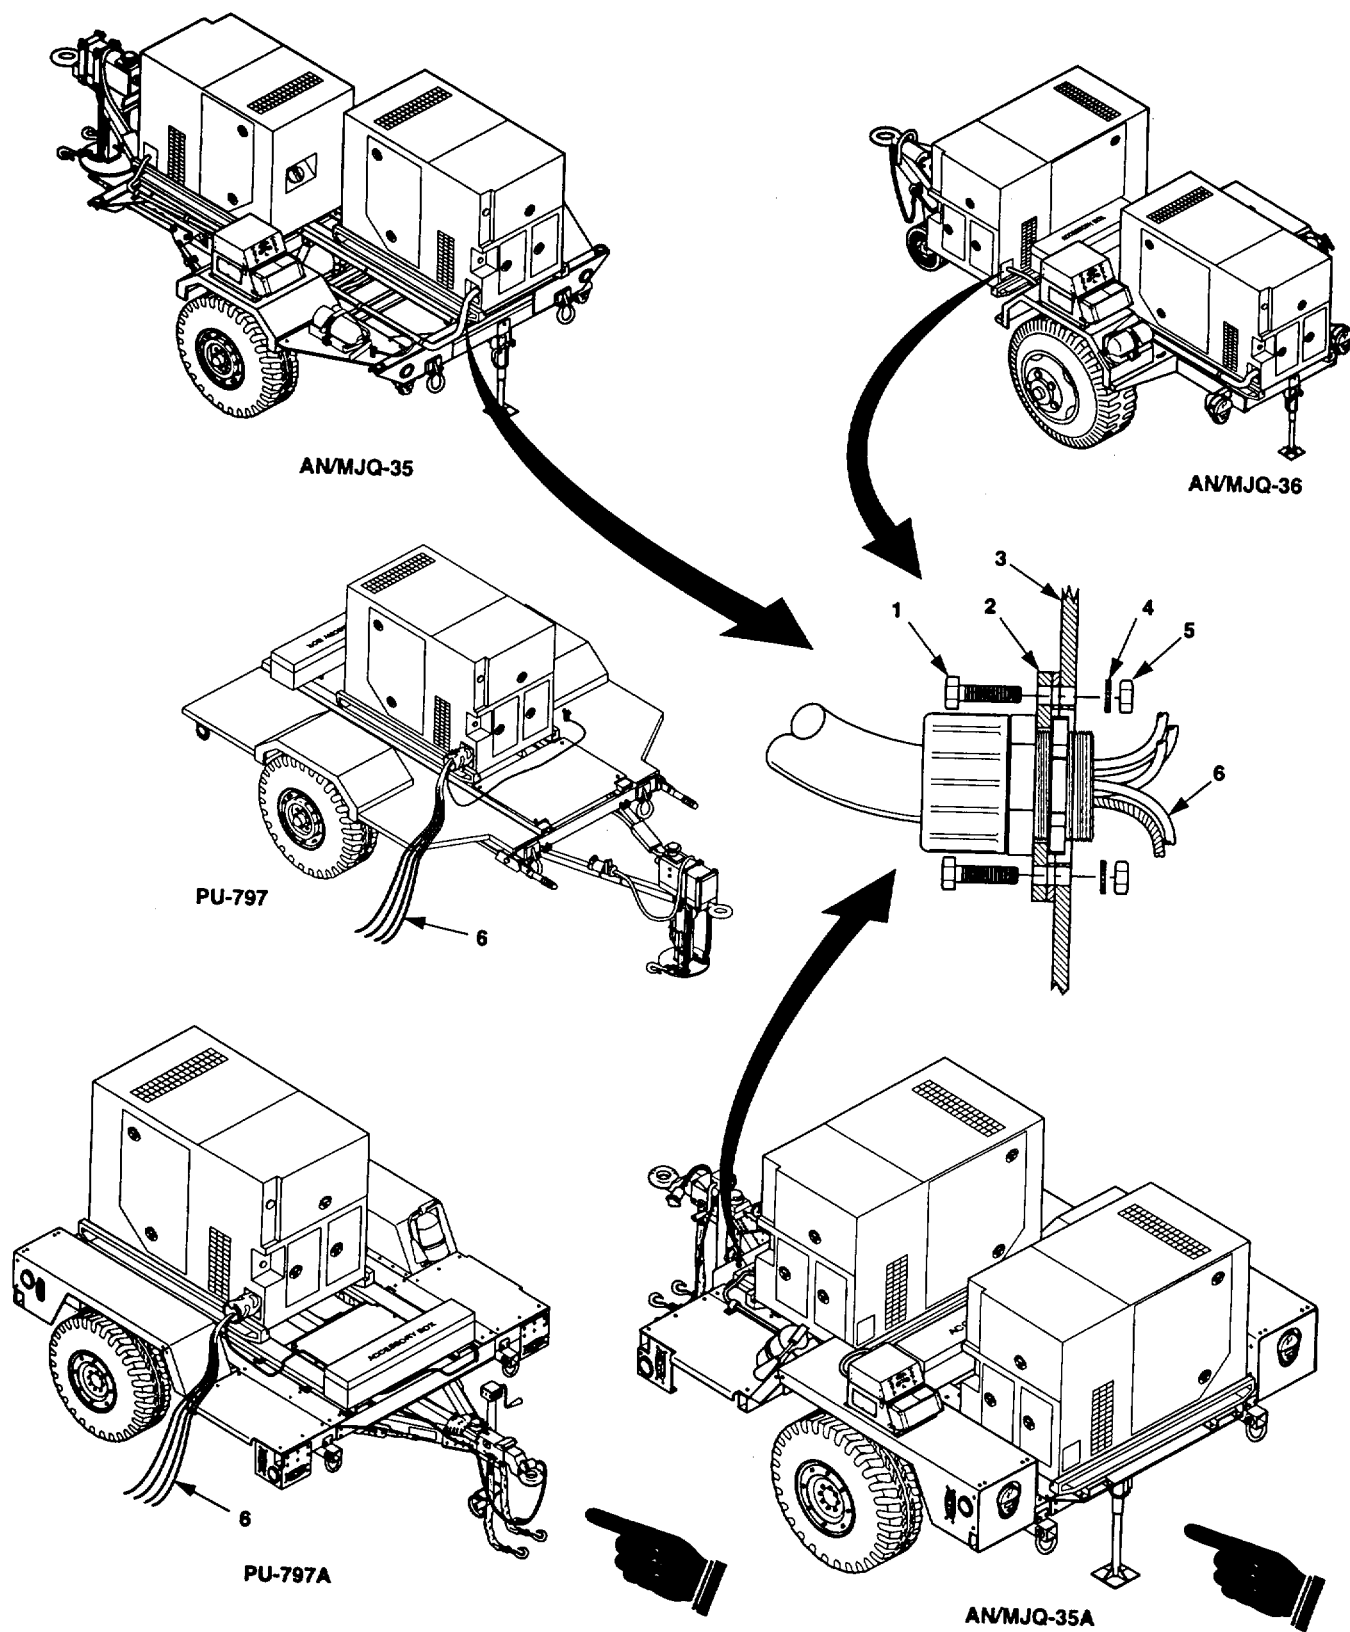
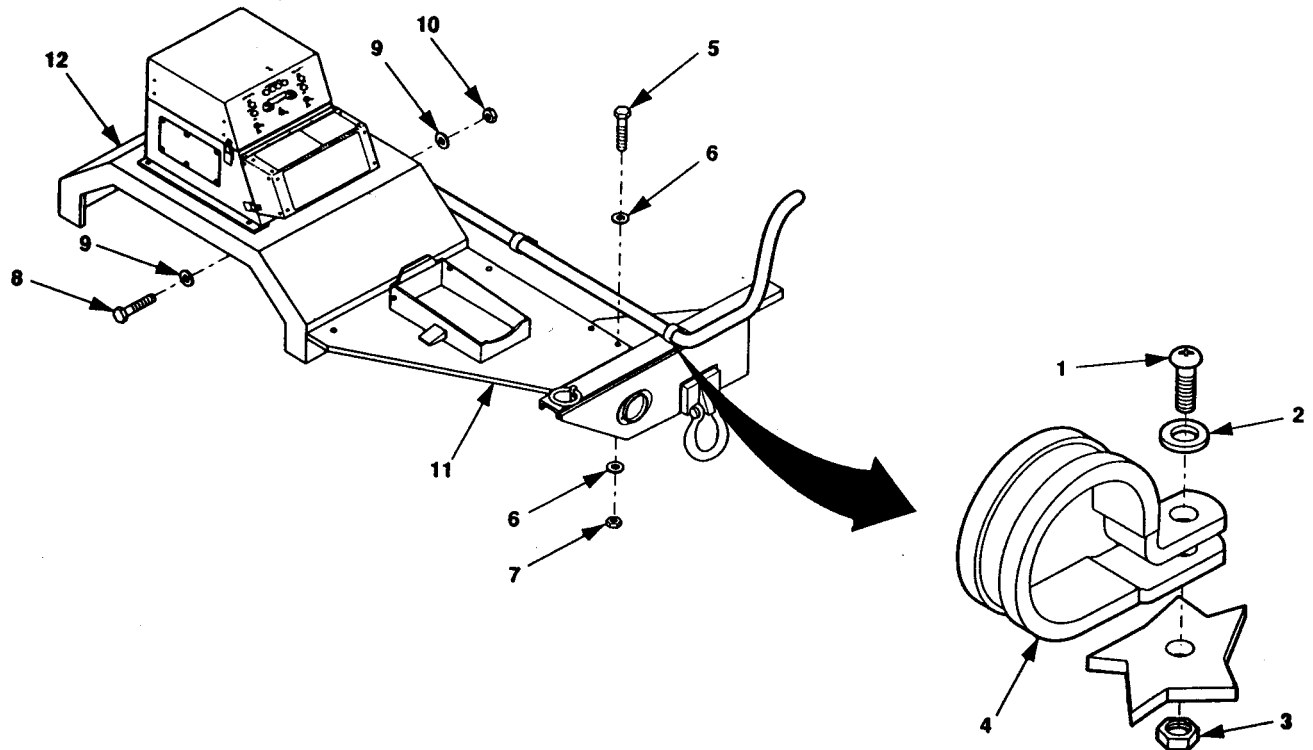

Figure 5-5. Power/Load Cable Removal.
Figure 5-6. AN/MJQ-35 Roadside Fender Assembly Removal.
1. Remove four nuts (5, figure 5-5), lock washers (4) and cap screws (1) from generator output plate (2).
3. Remove four nuts (3, figure 5-6), flat washers (2), and screws (1) from cable clamps (4).
4. Remove three nuts (7), six flat washers (6), and three screws (5) from inboard edge of splash guard (11).
5. Install four screws (8, figure 5-6), eight flat washers (9), and four self-locking nuts (10) in fender (12).
6. Install three screws (5), six flat washers (6), and three self-locking nuts (7) in inboard edge of splash guard (11).
7. Install cable clamps (4), screws (1), flat washers (2), and self-locking nuts (3).
9. Position generator output plate (2, figure 5-5, AN/MJQ-35, AN/MJQ-35A and AN/MJQ-36 only) with gasket (7) against generator set housing (3). Secure with four cap screws (1), lock washers (4), and nuts (5).
10. Refer to TM 9-6115-641-10 and connect power cable ends (6) to generator set load terminals as follows: